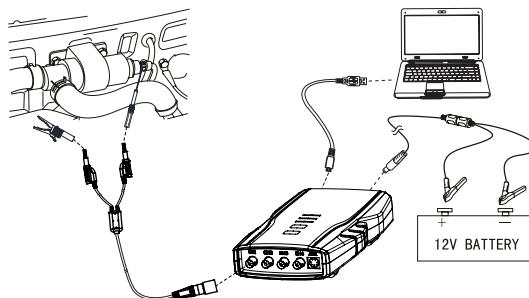

Fig. 44: Equipment connection
- Connect equipment according to Fig.44, switch on power supply.